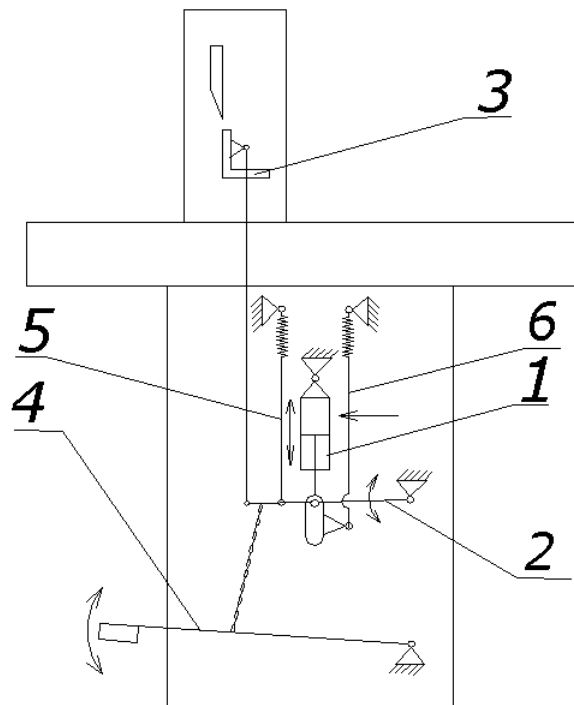

Figure 5. Kinematic mechanism of clamping beam drive
The driving mechanism for the clamping bar is shown in Figure 5. Hydraulic double-acting Cylinder/Actuator (1) through the Levers (2), pulls down the Clamping Bar (3). Clamping Bar is shifted in the slideways (not shown in Figure 5), which guarantees it's parallel to the cutting line.